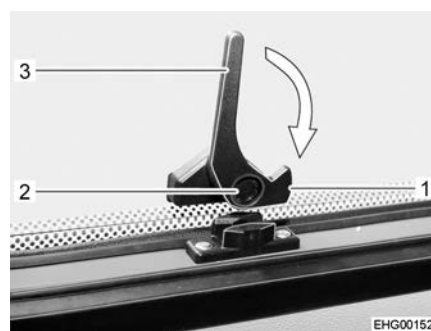

Fig. 63 Catch lever, at the bottom ("open" position)
- Press and hold the safety knob (Fig. 63,2) on the bottom catch lever (Fig. 63,3).
- Turn the bottom catch lever (Fig. 63,3) a quarter turn towards the window frame until the locking catch (Fig. 63,1) engages.